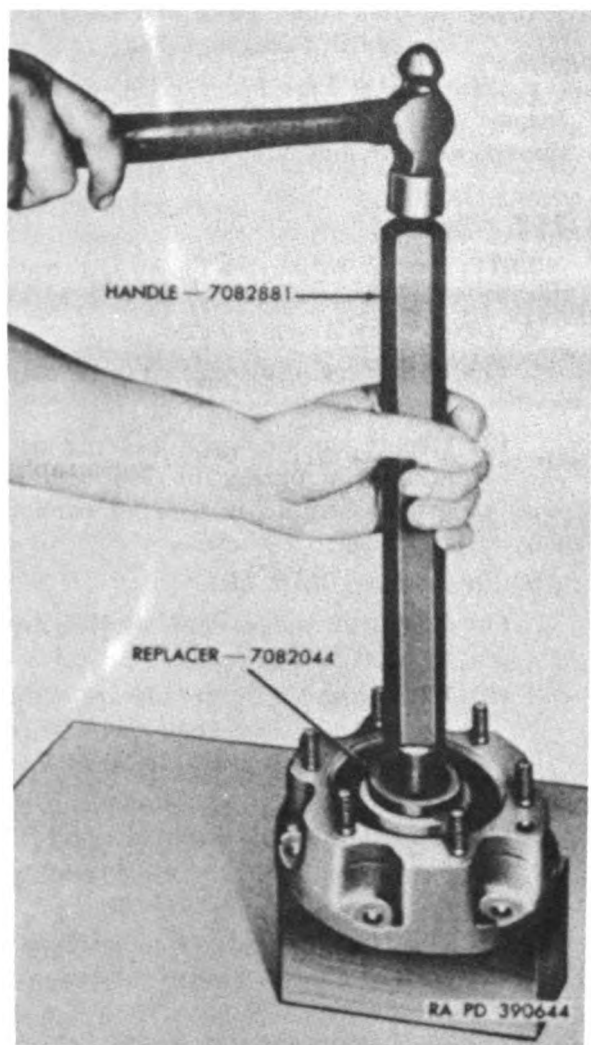

Figure 140. Installing generator drive adapter oil seal.
a. If oil seal (A) was removed from adapter, drive new oil seal into adapter with replacer 7082044 and handle 7082881 (fig. 140).
b. Coat threads on $\frac{1}{8}$ -inch hex-socket pipe plug (B) with gasket forming compound and install pipe plug in opening in adapter.
c. Install driven shaft gear assembly (K) in bore of adapter. Install gear assembly carefully so as not to damage oil seal.
f. Coat threads on $\frac{1}{8}$ -inch hex-socket pipe plug (E) with gasket forming compound and install pipe plug in drive gear shaft (F). Slide drive gear assembly (D) on shaft.
g. Install drive gear shaft, with attached drive gear assembly, in bracket, meshing teeth on drive gear assembly with teeth of driven shaft gear assembly, and secure with $\frac{1}{2}$ -inch castellated hex nut (H) and $\frac{1}{2}$ id, 1.0 od, $\frac{1}{8}$ thick flat washer (G). Secure nut with $\frac{3}{32} \times \frac{3}{4}$ cotter pin (J).